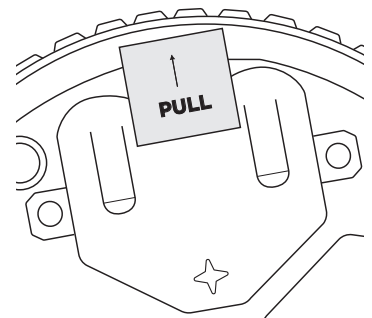

Figure 2: Battery Isolation Tab
2. On the 1112 PCB, remove the two battery isolation pull tabs. When removed, the transmitter activates and may be programmed into the system. See Figure 2.